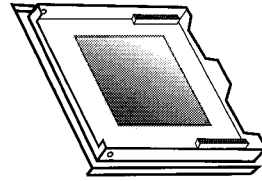

Fig. 4
5. Return the inner door panel to the closed position as shown in Fig. 4.